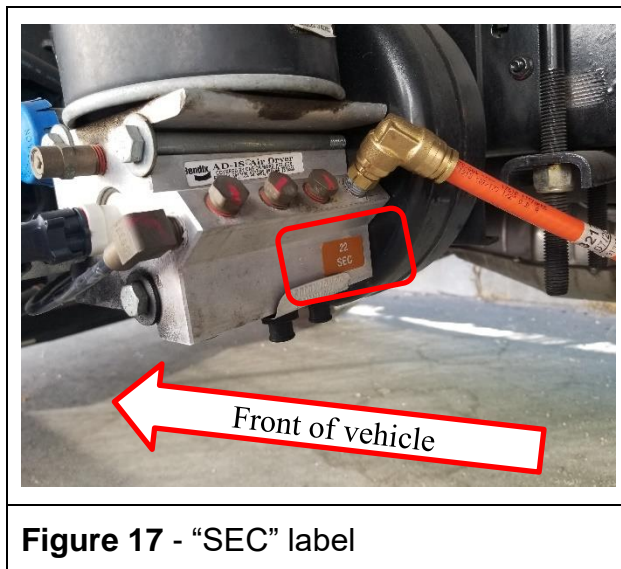
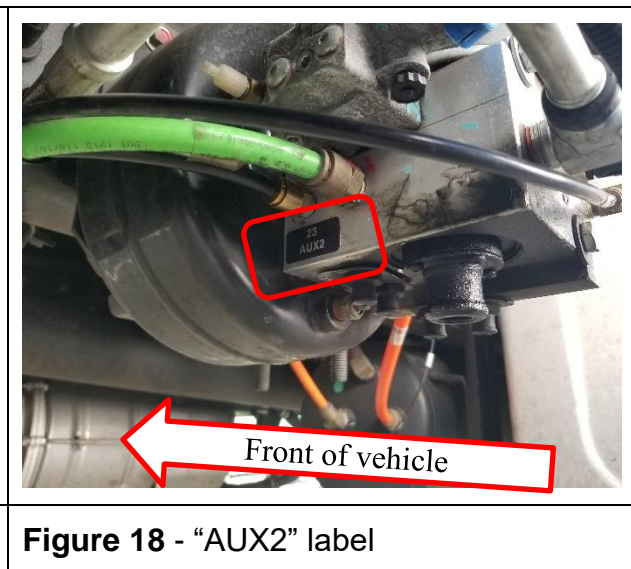

Figure 17 - “SEC” label
Figure 18 - “AUX2” label
18. Using brake cleaner, clean the locations where new identification labels will be mounted, as shown by red rectangles in Figures 17 and 18.
19. Affix new labels to air dryer. Place “SEC” label over “AUX2” marking. (See Figure 17.) Place “AUX2” label over “SEC” marking. (See Figure 18.)